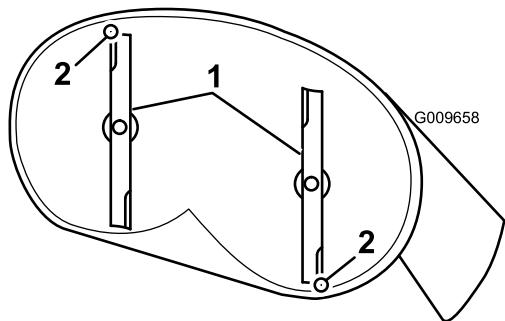
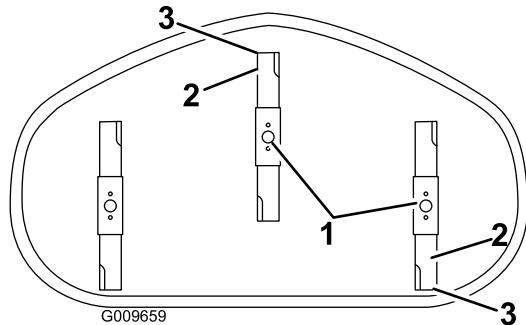

Figure 53
Figure 54
- 4. Carefully rotate the blades so they are facing front to rear (Figure 53 and Figure 54).
5. Measure from the tip of the front blade to the flat surface and the tip of the rear blade to the flat surface (Figure 53 and Figure 54).
Note: Continue adjusting the nut until the front blade tip is 1.6 to 7.9 mm (1/16 to 5/16 inch) lower than the rear blade tip (Figure 53 and Figure 54).